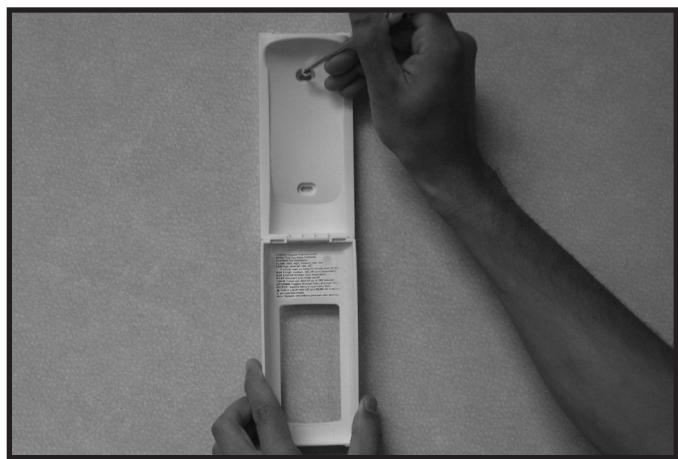

Figure 10.4. Mounting Remote Control Housing
- 3. Secure the remote control housing on a flat wall surface using the two screws and wall anchors provided. See Figure 10.4.